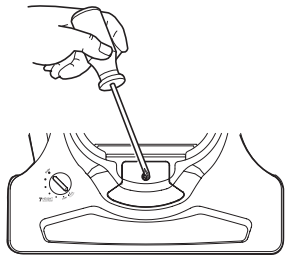

Fig. 28
- Remove the headlight cover by removing the screw with Phillips screwdriver. (Fig. 28)